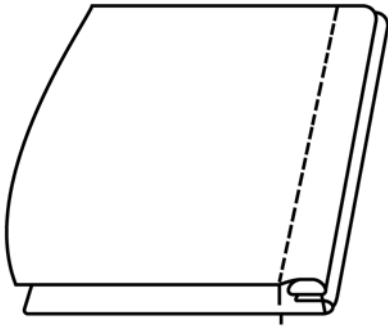

FIG. 6 French Seam from Back Side of Fabric
**French seam**, *n*—*in home sewing*, a complex seam formed on the inside of a product with both cut edges enclosed and no stitching rows visible on the face side. (Compare **mock French seam**.) (See Fig. 6.)